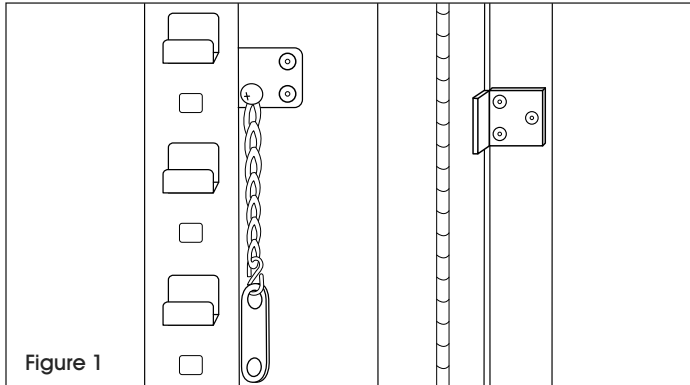

Figure 1
1. Install fusible link assembly with screw. (See Figure 1)
(Voir Figure 1)